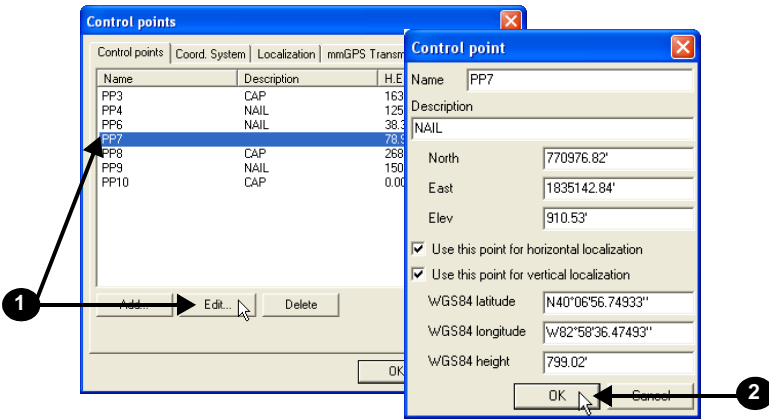

Figure 9-13. Edit Control Point
1. Click **Project ▶ Control points**, click the control point to edit, and click **Edit** (Figure 9-13 on page 9-12).
2. Edit the desired information and click **OK** (Figure 9-13 on page 9-12).